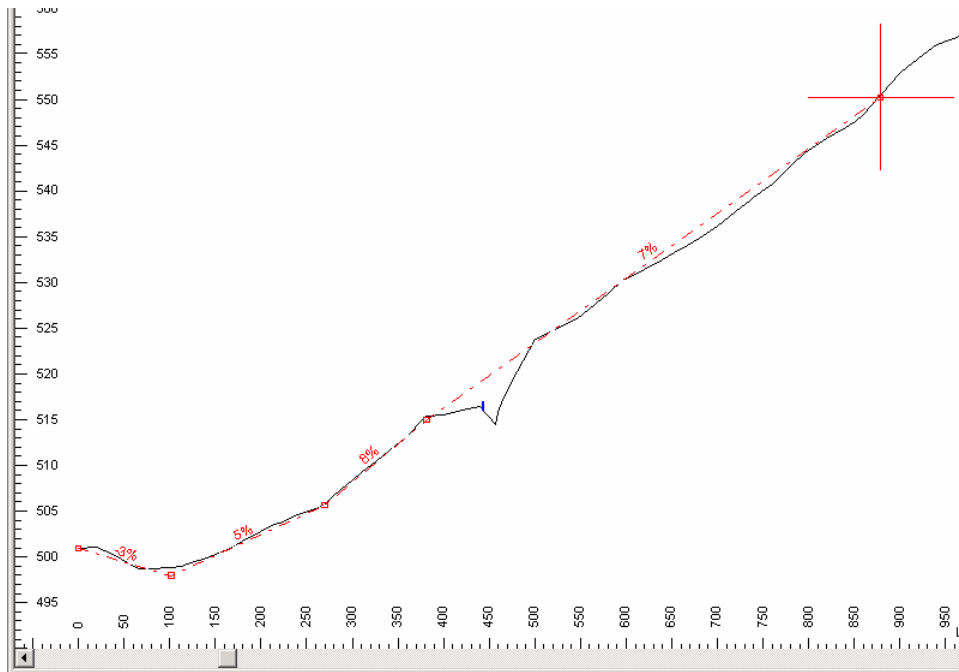

Figure 5.31: Plan View Showing New Tangents
5. Use the mouse (*Add/Edit IP Tool* cursor ) to create the tangents as shown in the Figure 5.31.